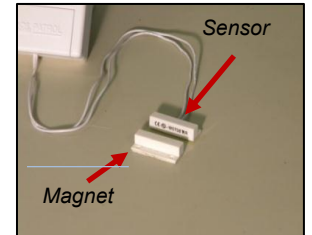

Figure 3 Magnetic sensor
4. The magnetic sensor is shown in Figure 3. The magnetic sensor already has a double-faced tape attached. Peel the protective covering from the back of the magnets and install so that the two magnets are not more than 3/4" apart. Some installations, such as outdoor applications, may require the use of four #10 screws (included) to attach the magnets. In some cases you may have to shim one side of the magnetic sensor so that when the door is closed, the magnetic sensors are even. When mounting to any metal door, slider, or fence post, a 1/4" wood or plastic spacer must be placed behind the magnetic sensor so as to avoid false tripping of the alarm.